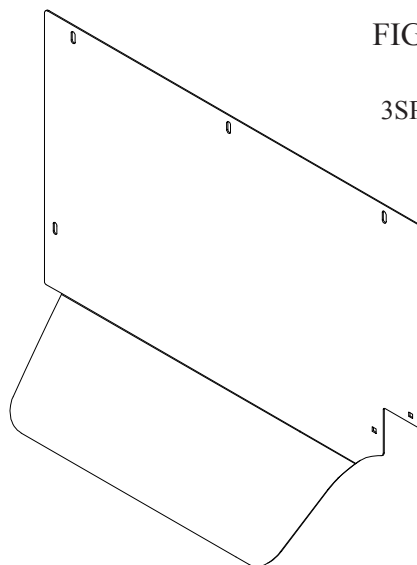

FIG. 15
- A. The Seat Protector and its mounting hardware are packed in separate box. Install the Seat Protector according to its included Install Instructions. (See Fig. 15 for reference)